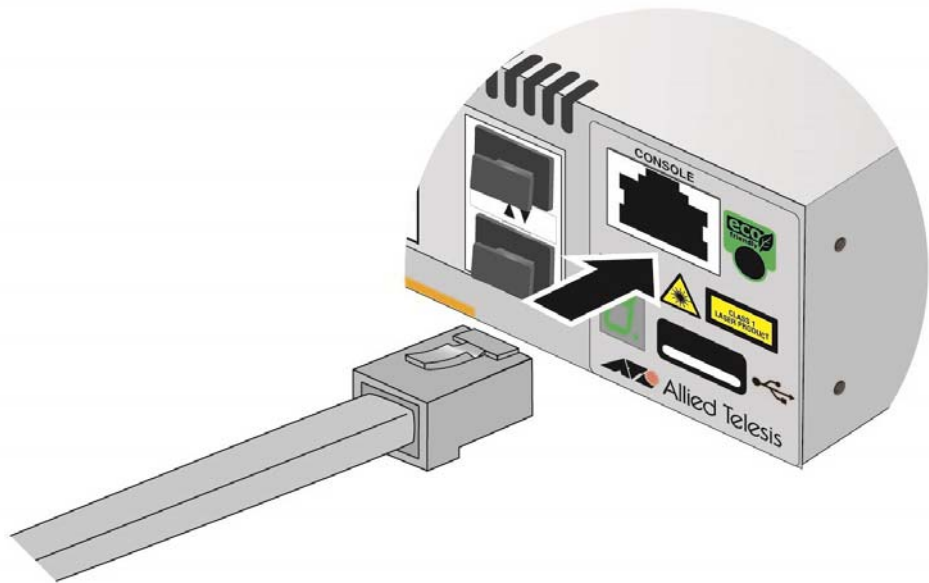

Figure 45. Connecting the Management Cable to the Console Port
1. Connect the RJ-45 connector on the management cable to the Console port on the front panel of the switch, as shown in Figure 45.